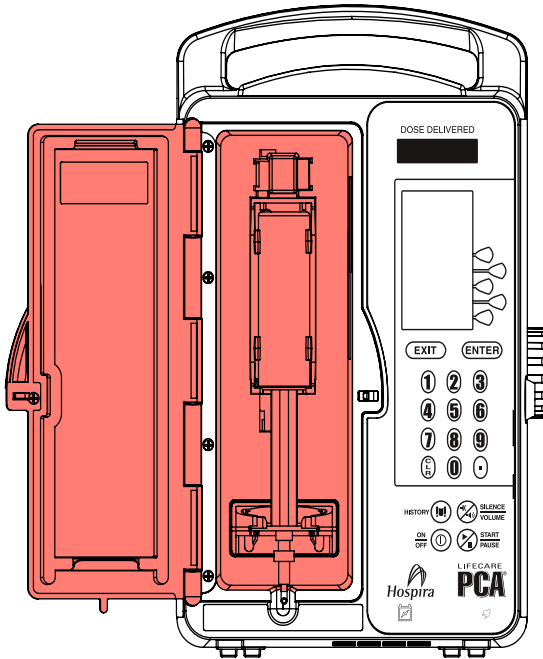

Figure 8-4.
- Using a lint-free cloth dampened in the approved cleaning solution (*see Table 8-1*) or wipes, wipe the vial compartment door, including the door hinge, all interior and exterior surfaces, and the infuser housing vial door recess highlighted in *Figure 8-4*.
- Use a brush to remove debris, and use moist swabs to clean any openings or hard to reach areas highlighted in *Figure 8-4*.